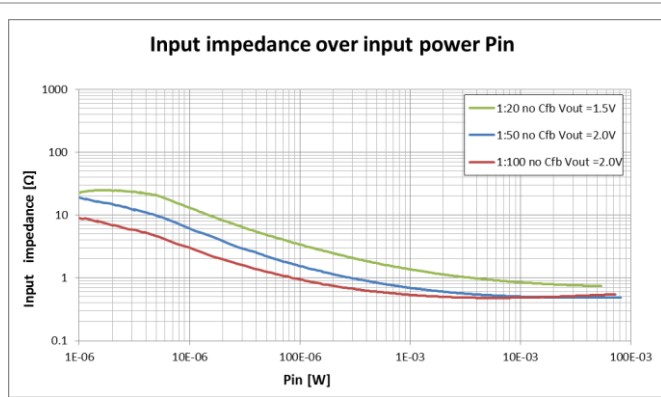
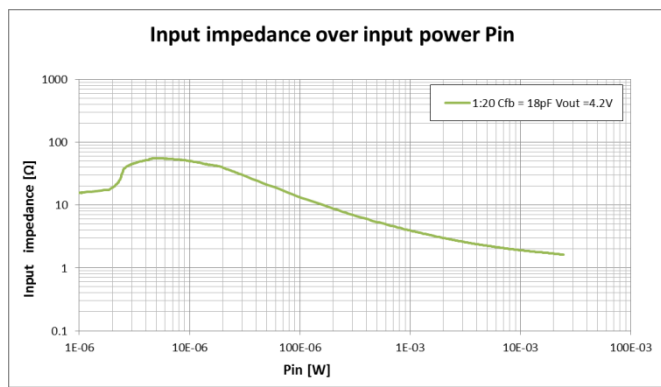

Figure 5-7 Input Impedance vs Power No C_{FB}
Figure 5-13 Input Impedance vs Power C_{FB} 18 pF
The TEG electrical impedance and the EM8900 input impedance have to match as shown in Figure 5-7 to Figure 5-13. As a function of the operating power range, the TEG electrical impedance should be selected as closely as possible to the value shown.
4. According to the Figure 5-13, the ideal TEG electrical resistivity is about 4 Ω at 1 mW.
4. According to the Figure 5-7, the ideal TEG electrical resistivity is about 2 Ω at 20 μ W.